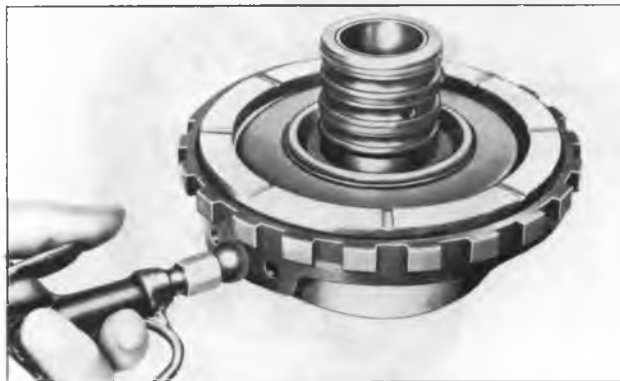

Figure 94—Air Checking Intermediate Clutch Piston
6. Install three (3) hook-type cast iron oil seal rings on the center support if the teflon ring was not removed. If the teflon ring was removed, install four (4) hook-type cast iron oil seal rings.
7. Air check operation of intermediate clutch piston (fig. 94).